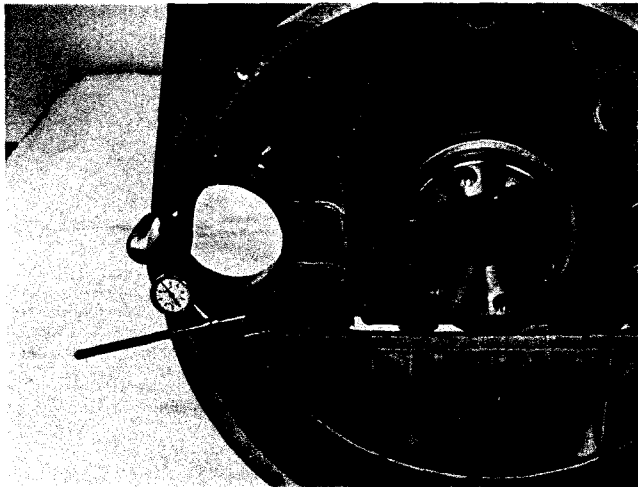

Fig. 14-45, (N114276). Indicating flywheel housing face
1. Attach ST-1325 and a dial gauge as shown in Fig. 14-45.